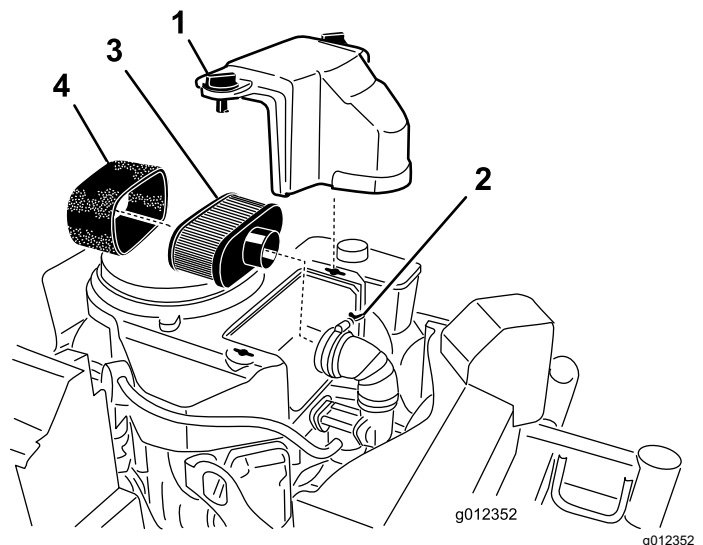

Figure 37
2. Clean around the air cleaner to prevent dirt from getting into the engine and causing damage (Figure 37).
3. Rotate the cover knobs 1/4 turn counterclockwise and remove the air-cleaner cover (Figure 37).
air-cleaner assembly from the inlet duct (Figure 37).
- Carefully pull the foam element off the paper element (Figure 37).
- Inspect the element for tears, an oily film, or damaged (Figure 37).
- Inspect the element for tears, an oily film, or damage to the rubber seal (Figure 37).
- Carefully slide the foam element onto the paper air-cleaner element (Figure 37).
- Align the air-cleaner assembly onto the inlet duct and secure it with the hose clamp (Figure 37).
- Align the air-cleaner cover onto the engine cover and secure the cover by rotating the cover knobs 1/4 turn clockwise (Figure 37).